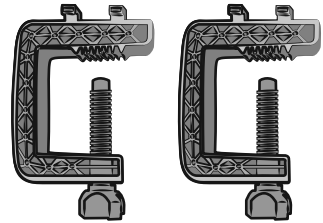

Fig. 6. Fixation stands
- Install the device on an even surface (for example, on a table) on its suction caps. If necessary fasten it with the two fixation stands (Fig. 6).